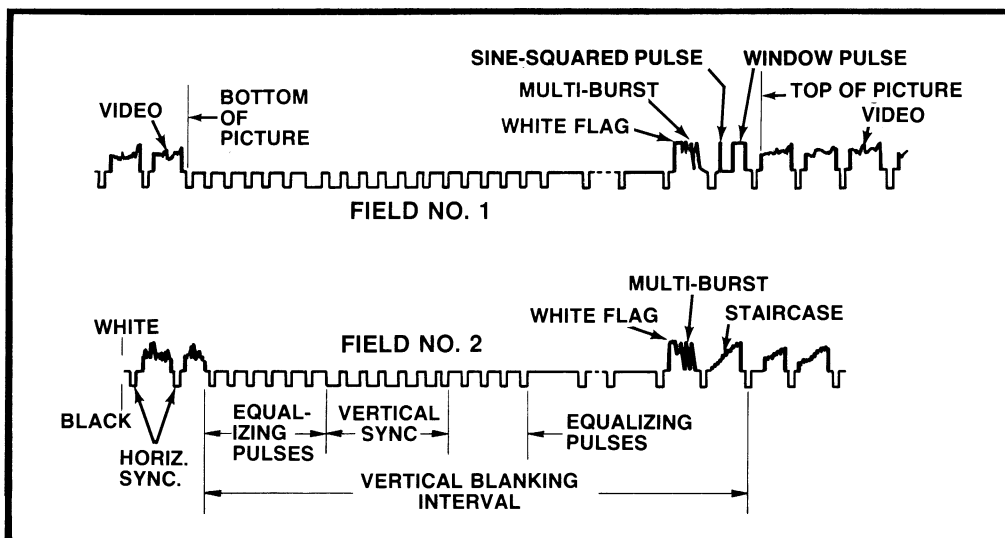

Figure 6-16. Vertical Blanking Interval Showing VITS Signal
Figure 6-16). It does not begin simultaneously with the vertical sync. pulse but occurs on lines 17 and 279. The trace brightness will be quite low because of the low display rate and because the X5 magnifier must be used to display the VITS 17 lines after occurrence of the vertical sync. pulse. Therefore, a scope hood or paper tube wrapped around the CRT bezel to achieve higher trace control is recommended for viewing the screen.
- f. Adjust trigger LEVEL control to sync. on equalizing pulses as shown in Figure 6-16 and observe VITS on right side of screen.